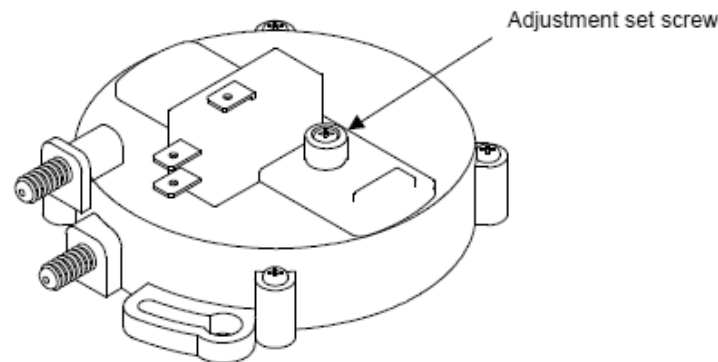

Figure 1. Pressure switch identification and set screw location
- 2.2.5.3. Remove the clips from the Enclosure/Stand Assembly (See Figure 1).